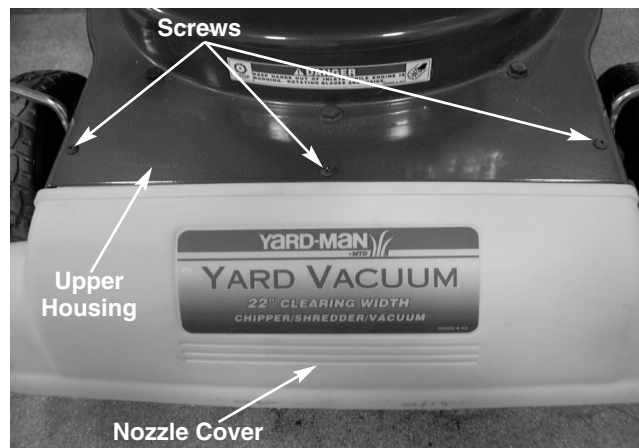

FIGURE 3.
4. Remove the three screws on the upper housing that secure the nozzle cover to the upper housing, using a phillips screwdriver. See figure 3.